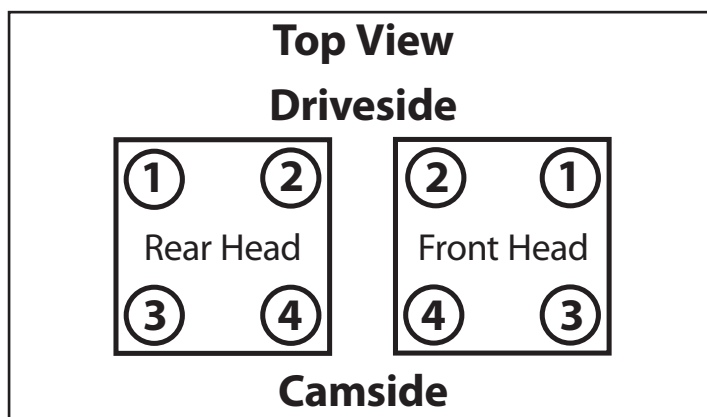

Figure 3
- a. Tighten each bolt finger tight using the sequence in **Figure 3**.
7. Fully loosen all head bolts ¼ turn at a time in the sequence shown in Figure 3 until fully loose. Repeat the tightening sequence in step 6 a second time. **See Figure 3**.